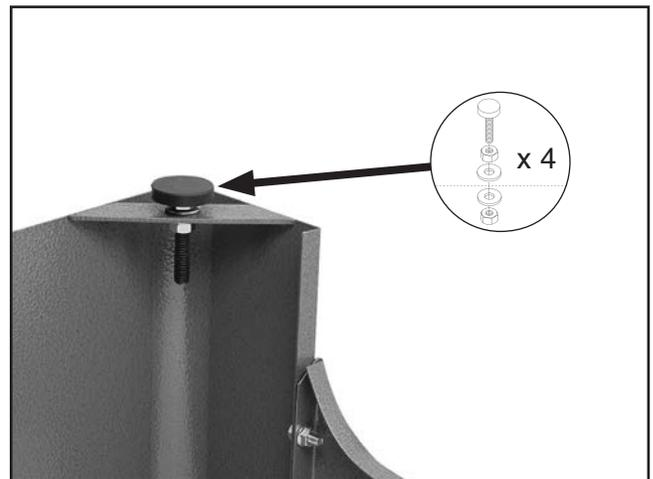

Figure 10. Stand foot installed (1 of 4).
3. Install the foot assemblies into the holes in the bottom of the stand assembly, using (2) $\frac{3}{8}$ "-16 hex nuts and (2) 10mm flat washers, as shown in **Figure 10**.